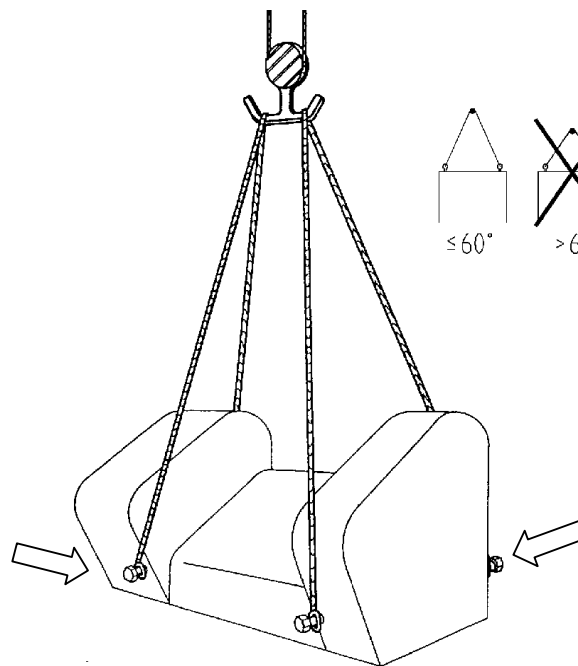

Fig. 3.1
- Only lift the machine at the indicated suspension points, see Fig. 3.1.